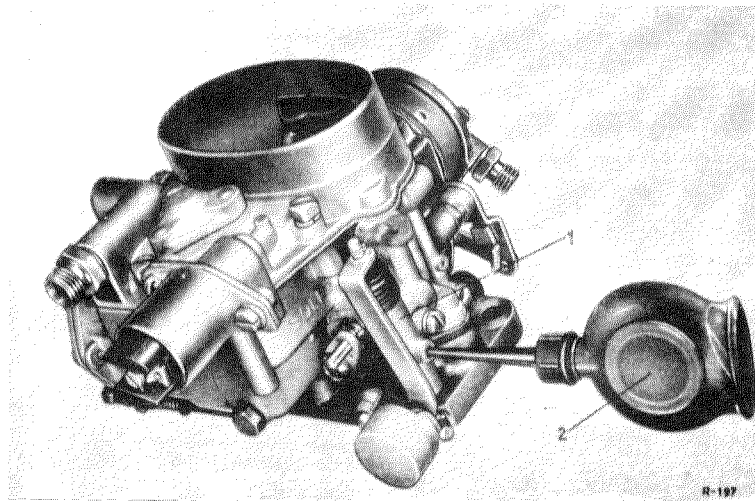

Fig. 07 — 3/5
35. In order to fill the oil shock-absorber (1), remove the slotted-head screw on shock-absorber, together with sealing.
36. Using a suitable oil can (2), inject SAE 10 W engine oil into the bore thus exposed until the oil runs out of the filler bore (Fig. 07 — 3/5).